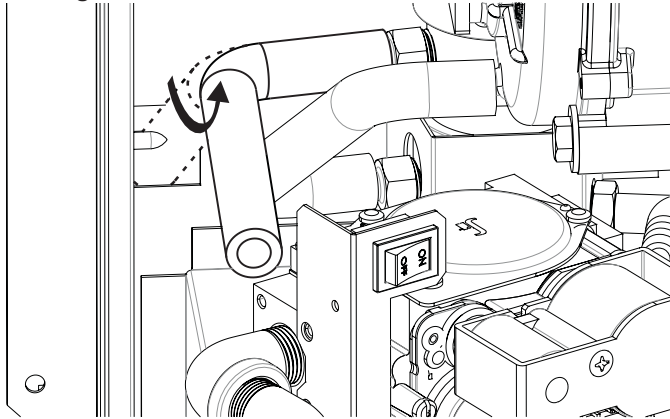

Figure 3
- Remove and discard the hose clamp and barb from the black condensate drain line from the bottom left of the condensate trap. Rotate the hose toward the front of the furnace. See **Figure 3**.